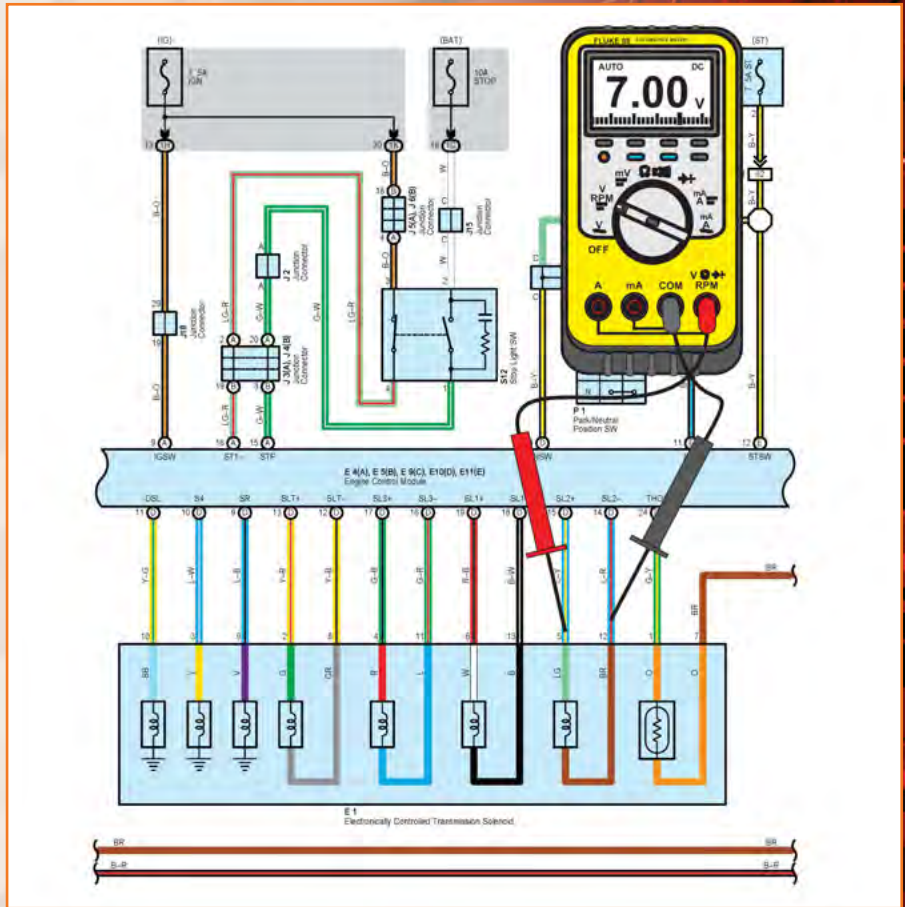

Figure 4
- Connect your positive lead to terminal 5 and the negative lead to terminal 12 (figure 4).